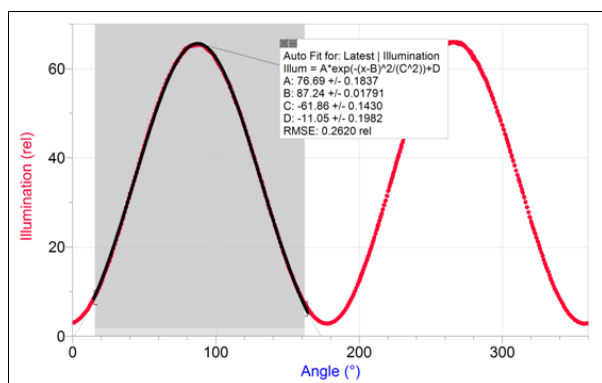

Figure 1 Selection for Statistics and Gaussian fits (applies to all supported software)
- a. Statistics: To simply get the angle with the highest illumination, highlight the peak of interest in Instrumental Analysis, as shown in Figure 1. Click or tap Graph Tools, , and select View Statistics. Record the angle value where the illumination is at a maximum, as presented in the box. This method is the fastest and will result in reproducibility of the angle of rotation measurement of $\pm 2.0^\circ$.
- a. **Statistics:** To simply get the angle with the highest illumination, highlight the peak of interest in LabQuest App, as shown in Figure 1. Choose Statistics from the Analyze menu. Record the angle value where the illumination is at a maximum, as presented in the box. This method is the fastest and will result in reproducibility of the angle of rotation measurement of $\pm 2.0^\circ$.
- b. **Gaussian:** To improve your accuracy with a better fit, highlight the peak of interest using LabQuest App, as shown in Figure 1. Then, choose Curve Fit from the Analyze menu. From the list of available Equations, select Gaussian. The fit will run automatically. The B coefficient presented represents the angle at maximum illumination. This method will result in reproducibility of the angle of rotation measurement of $\pm 0.3^\circ$. The data are not a true Gaussian, but the ease and accuracy of this methodology make it a good option. For best results, be consistent in the way you select your peaks.